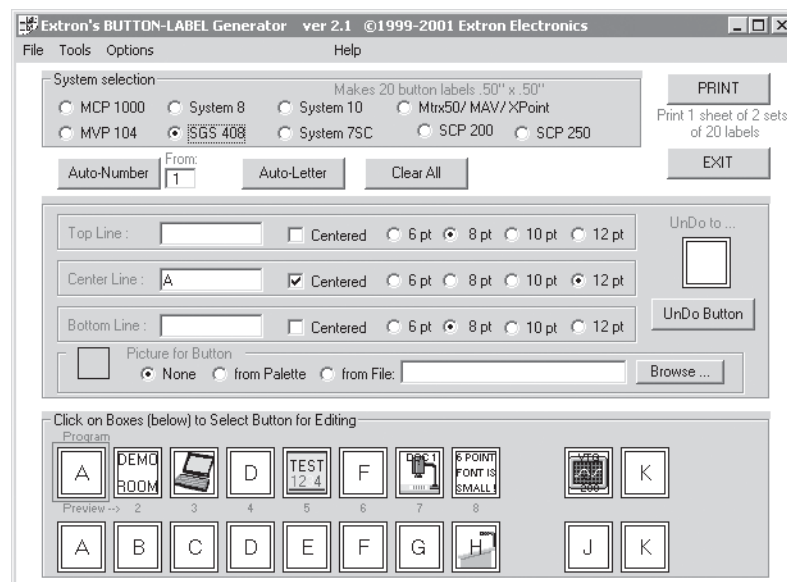

Figure 5-5 — Extron's Button-Label Generator window
1. To run the Button-Label Generator program, double-click on the Button-Label Generator icon (shown at right) in the Extron Electronics group or folder, and click OK when prompted. The Extron's Button-Label Generator window appears (figure 5-5).